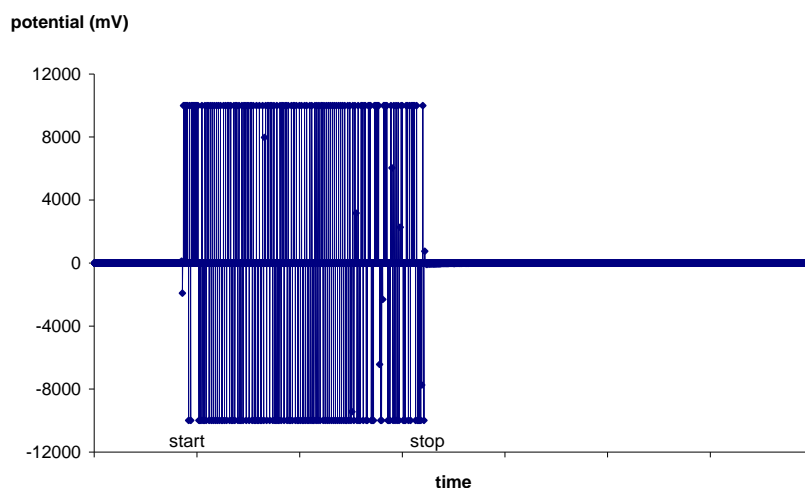

Figure 2: buzz function of the BA-03X
Push button for activating the BUZZ or ELECTR. CLEAR circuit (duration set by (15)). To facilitate the penetration of the cell membrane the BUZZ circuit is provided which is based on oscillations caused by overcompensating the capacity compensation system. The overcompensation of capacity compensation yields to very powerful high-frequency oscillations (see Figure 2).